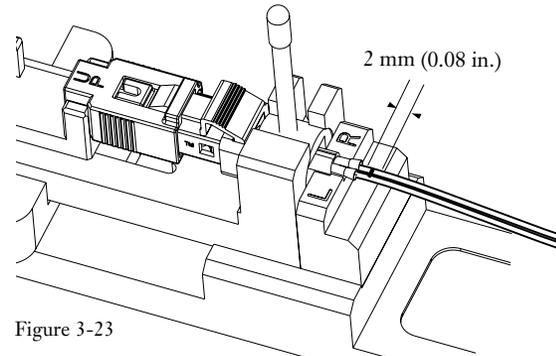

Figure 3-23
**Note:** *If you have stripped and cleaved the fiber to the correct length, the buffer mark should be within 2 mm (0.08 in.) of the lead-in tubes (Figure 3-23). If this mark is not visible, the fibers may have been broken. Remove the connector; re-strip and recleave the fibers, and begin with a new connector.*